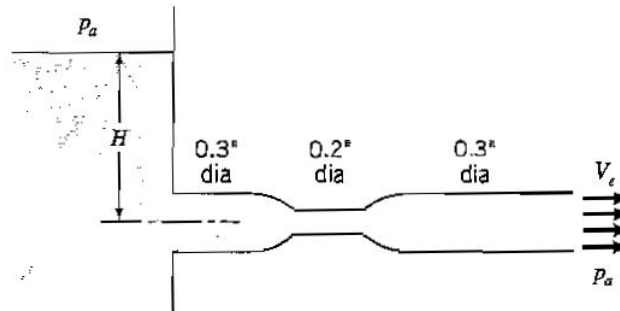

Figure P4.31
4.31 Water exits from a reservoir as shown in Figure P4.31. As H increases, the exit velocity increases until a critical elevation is reached and cavitation occurs. Find this value of H . Assume uniform flow and no losses, and that the vapor pressure is 0.25 psia.